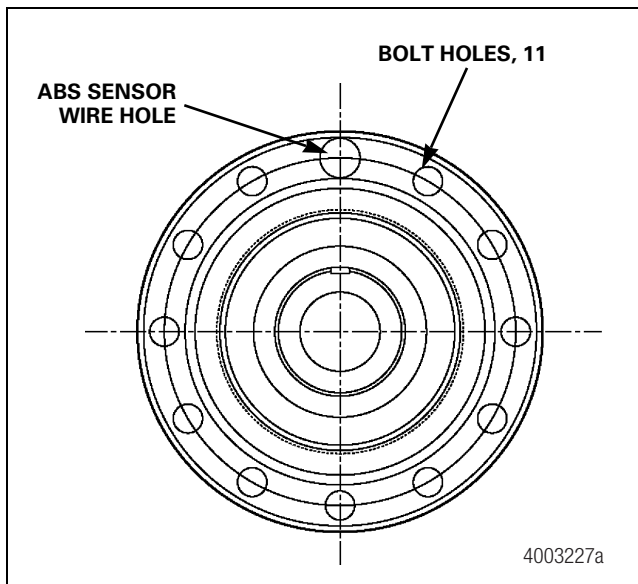

Figure 6.25
- **For a 12-hole flange:** Fasten the brake by installing the correct 9/16-inch (14.288 mm) diameter fasteners through the 11 0.594-inch (15 mm) holes. Tighten the fasteners to 130-165 lb-ft (176-224 N•m). Figure 6.25.